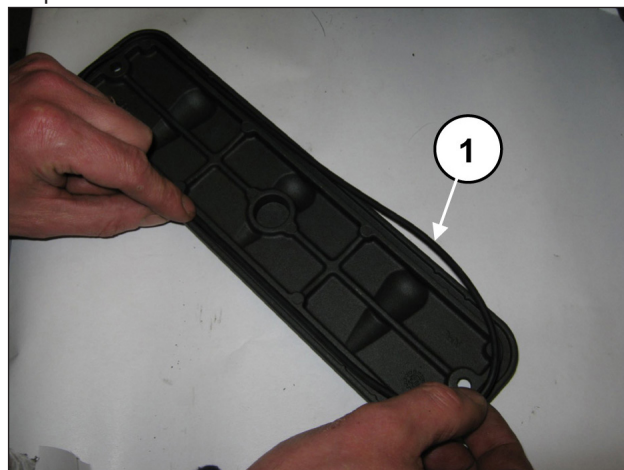
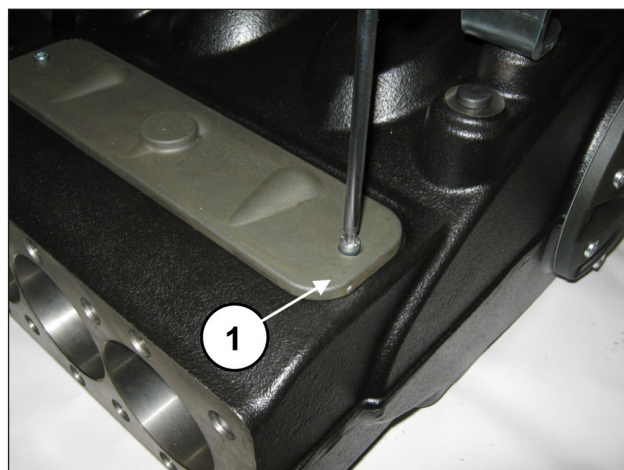

Fig. 93
Fig. 94
Apply the inspection covers with O-rings (pos. ①, Fig. 93) and tighten with 2 M6x14 screws (pos. ①, Fig. 94) and 2 M6x40 screws.